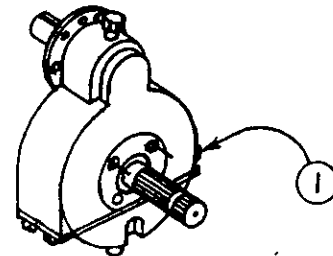

FIGURE 1
Check oil level by side plug (fig.1, item 1) every 40 hours of operation or monthly. Make sure oil is up to the level plug, if not add SAE 90 oil. Replace oil every 100 hours of operation or yearly.